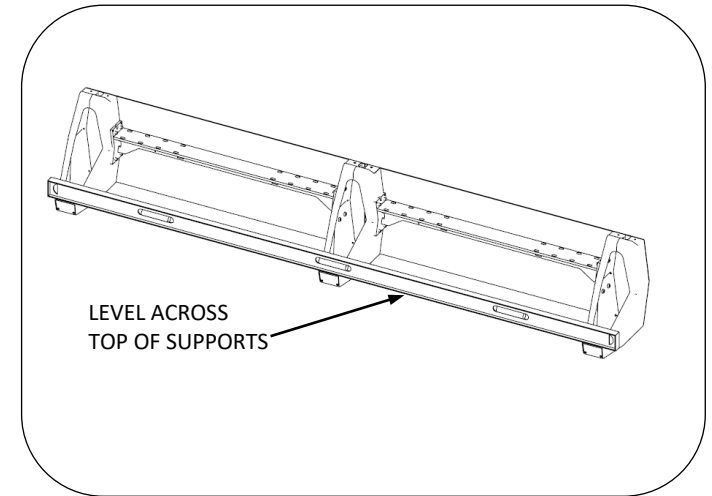

Fig. 3
7. Level the supports. Adjust glides as necessary. See Figs. 3 and 4 for leveling detail.